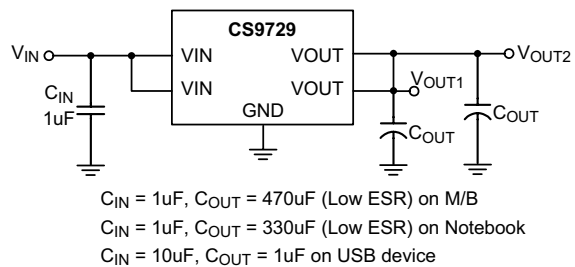
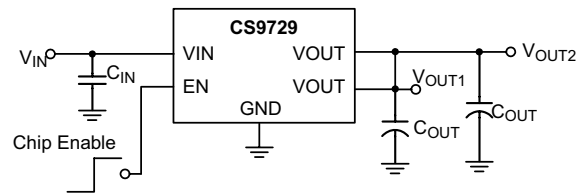

Figure 1. High Side Power Switch
Figure 2. High Side Power Switch with Chip Enable Control
- ▶ If the package is with dual VOUT or VIN pins, short both the same function pins as Figure 1 or Figure 2 to reduce the internal turn-on resistance. If the output power will be delivered to two individual ports, it is specially necessary to short both VOUT pin at the switch output side in order to protect the switch when each port are plug-in separately.